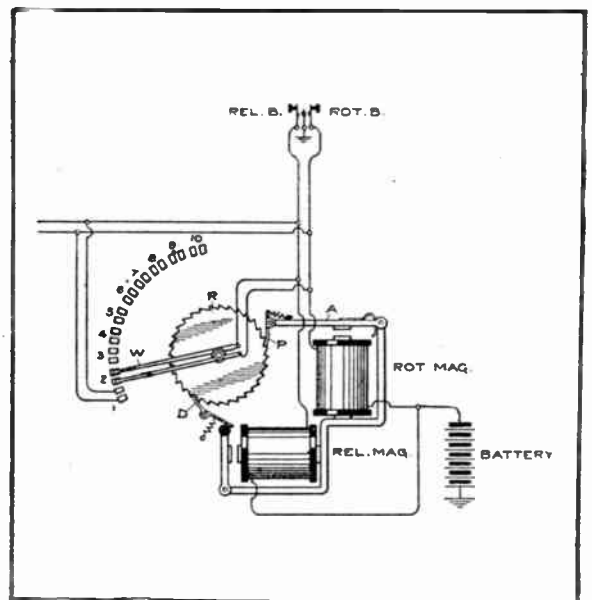

Fig. 5—Operation of automatic telephone selector
The operation of an automatic selector at the exchange will be understood by referring to Fig. 5, which is a simple selector or circuit finder for an exchange of ten subscribers. The subscriber's lines, or circuits, terminate in ten pairs of plates or "bank contacts" arranged on the arc of a circle and numbered from 1 to 10, respectively. A ratchet wheel, R, is arranged with its center at the center of the arc formed by the contacts and carries a pair of springs. W, technically termed a wiper, is arranged with its center at the center of the arc formed by the contacts and carries a pair of springs. W, technically termed a wiper. The line for subscriber No. 1, for instance, by whom it is supposed this instrument will be used, is represented as being connected not only to the first pair of "bank contacts," but also to the wiper, to the rotary magnets and to the release and rotary push-buttons.
An idea of the method pursued in obtaining a certain connection in a system of this capacity (100 subscribers) may be had by considering that each subscriber circuit or line of two wires is connected to a pair of the "bank contacts" and to a connecting machine, technically termed a "connector switch," somewhat after the method depicted in the cut, which shows the connection for station 11. The important feature of the connector switch is the ratchet wheel or hub (R), which carries the wiper (W), already described in connection with the simple diagram at Fig. 5.
The plate to which the cylinders are fastened is made of 1/16 inch steel bent over at the edges to increase the stiffness. The cylinders are held on by means of the ring, Fig. 1. Another method of fastening them is shown in Fig. 5. They are clamped down with small steel strips and screws.